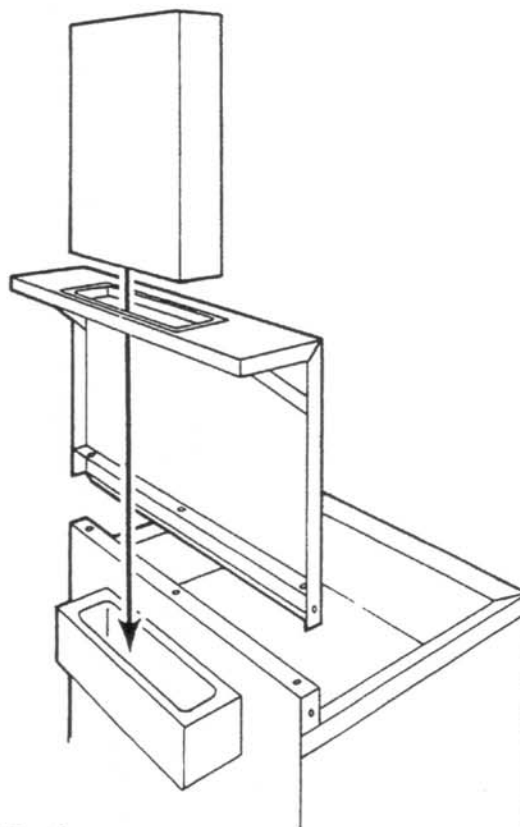

Fig. 6
4. Install the splash guard and flue pipe. See Fig. 6. Remove the two flat head machine screws (10-24 x 1/2) which are located on each cabinet side just to the rear of the kettle. Remove the three #10 x 5/8 self-tapping screws located at the top corners and top center of the cabinet back.